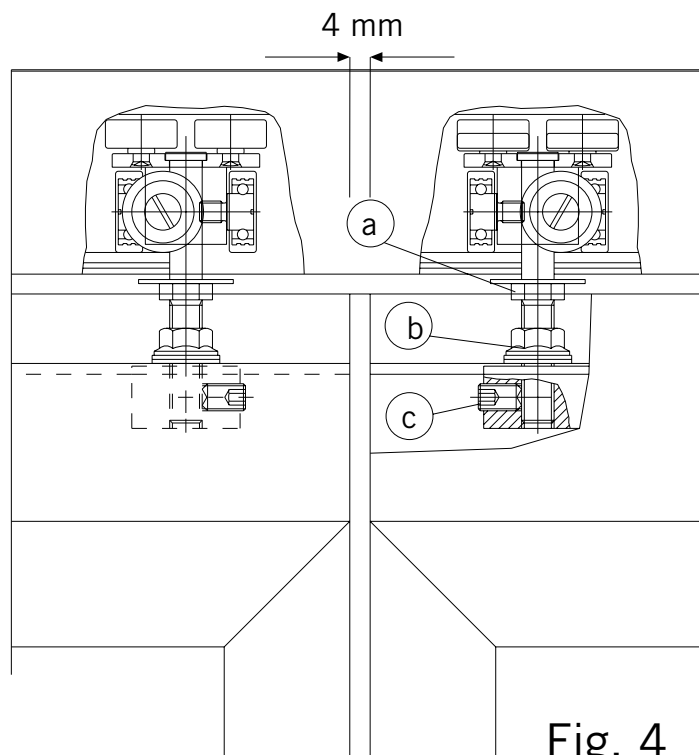

Fig. 4
4.1 Aligning the panel height (Fig. 4):